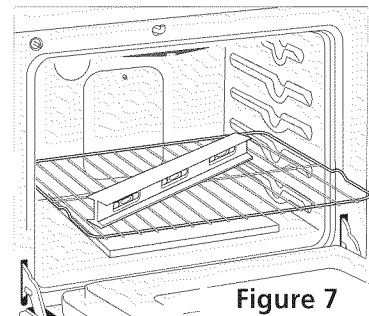
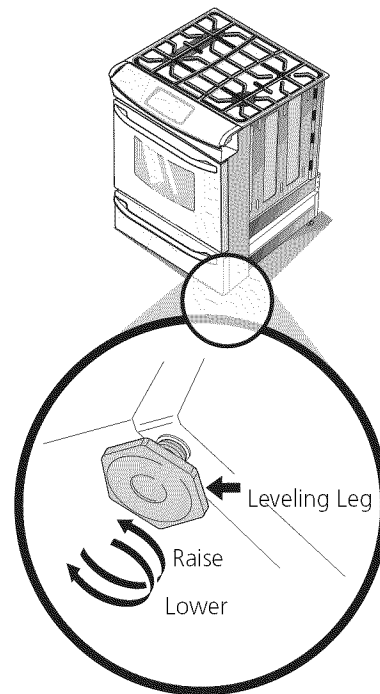

Figure 7
Figure 13
2. Place a level on the rack (see Figure 7). Take 2 readings with the level placed diagonally in one direction and then the other. Level the range, if necessary, by adjusting the 4 leg levelers with a wrench (see Figure 13).
4. Level range if necessary, by adjusting 4 leg levelers with wrench (Figure 13). A minimum clearance of 1/8" (0.8 cm) is required between the bottom of the range and the rear leg levelers to allow room for the anti-tip brackets.